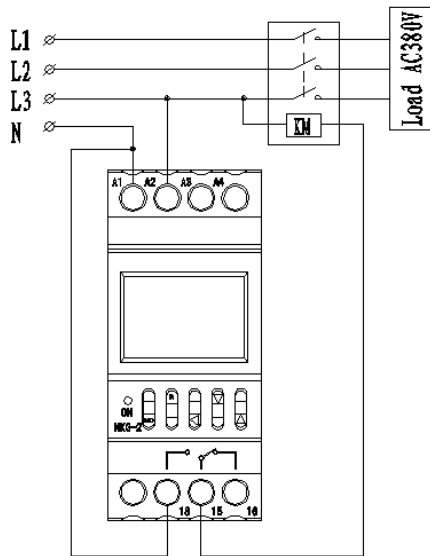

Figure 4 Three-phase controlled wiring diagram (220V for contactor coil)
- a) The coil voltage of the controlled contactor is AC 220C 50Hz, so its wiring method sees Figure 4;